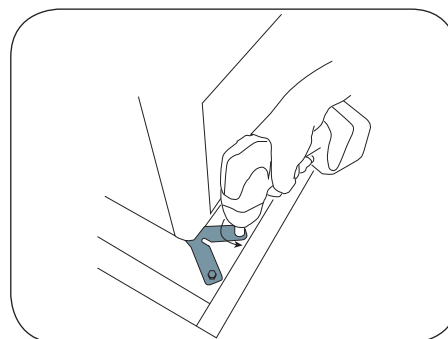

Figure 2. Remove Shipping Brackets
2. Remove the 4 steel shipping brackets securing the table to the pallet (Figure 2). The brackets hook onto the table levelers to hold the table securely to the pallet. Remove the 2 bolts from each bracket using a 7/16" socket or wrench. Take care not to scratch the unit when using the driver or turning the wrench. Remove brackets from levelers once bolts are removed.